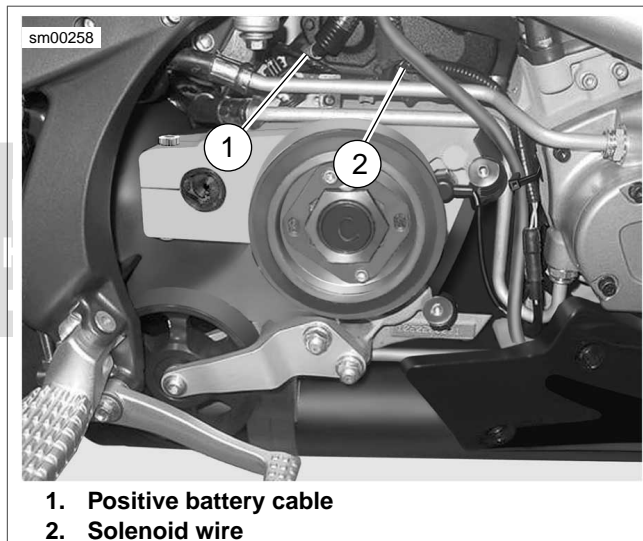

Figure 6-22. Starter Wires (Protective Boot Not Shown)
6. See Figure 6-22. Lift rubber boot remove fastener with washer (metric).
- b. Remove positive battery cable (1).
- c. Detach solenoid wire (2).